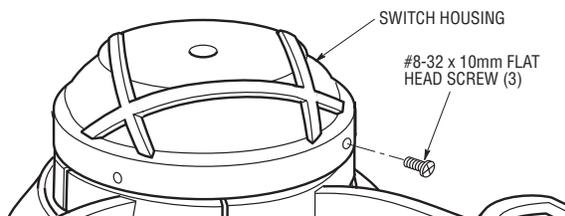

Figure 5
- 11. Secure the switch housing to the switch housing plate using three #8-32 x 10mm flat head screws (supplied) (Figure 5).